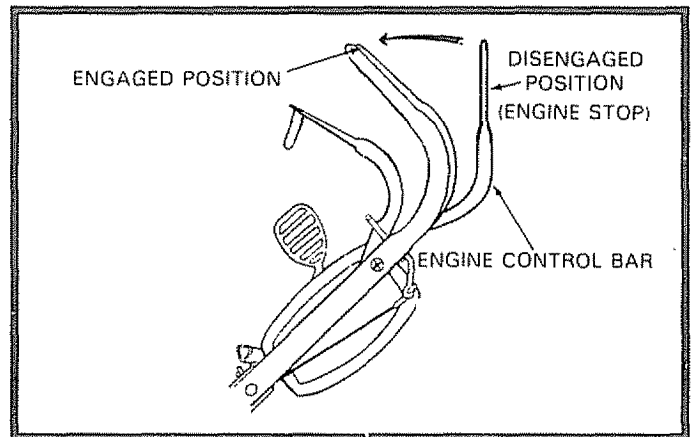
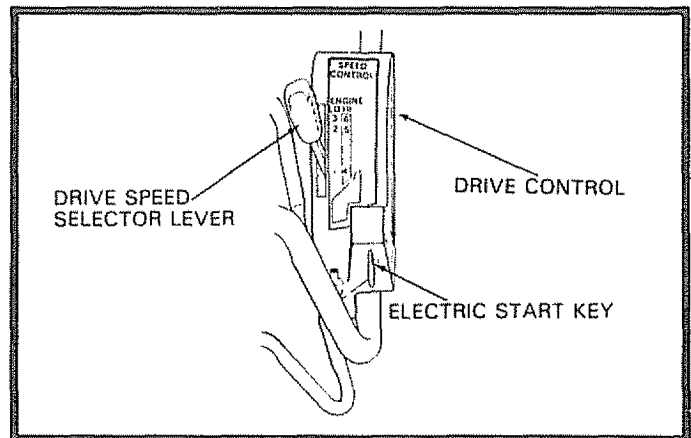

FIG. 16
FIG. 17
- Remove Keys from customer package. Install one (1) Key in the Electric Start Key Slot located in the Drive Control (See Fig. 17). Place the remaining Key in a safe place for future use.
- To start a cold engine, push Primer one (1) time. Use a firm push. Pushing Primer is not usually necessary when starting an engine which has run for a few minutes.
- Pull up and hold Engine Control (lower) Bar to Handle (See Fig. 16).
**NOTE:** The Electric Starter will not operate unless the Engine Control Bar is depressed against Handle (See Fig. 16).
**CAUTION: DO NOT CRANK ENGINE MORE THAN FIVE (5) CONTINUOUS SECONDS. WAIT 5 TO 10 SECONDS BETWEEN EACH TIME YOU TRY TO START.**